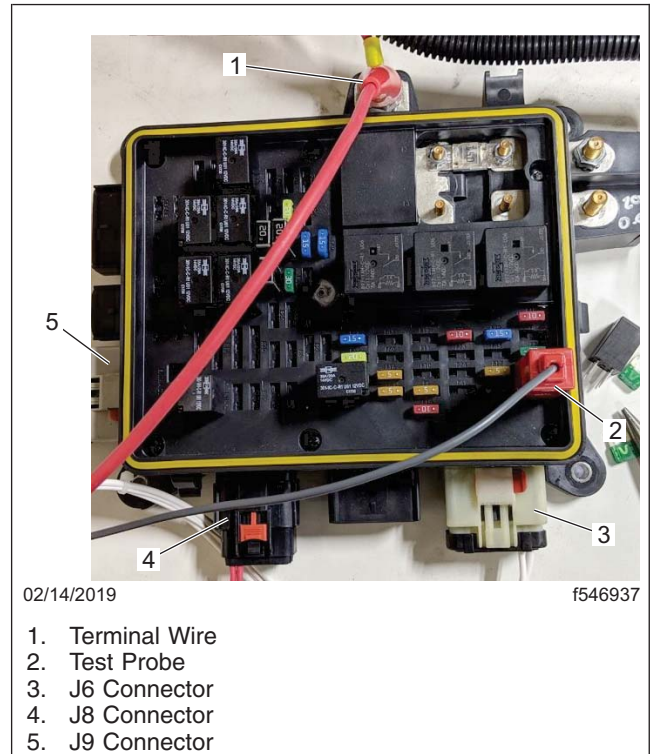

Fig. 3, Tester Connected to the PDM
7. Connect the tester to the PDM. This includes three J-connectors and the test probe, along with the power and ground terminals. See Fig. 3. Not shown in Fig. 3 is the ground terminal connected to the negative terminal on the battery.